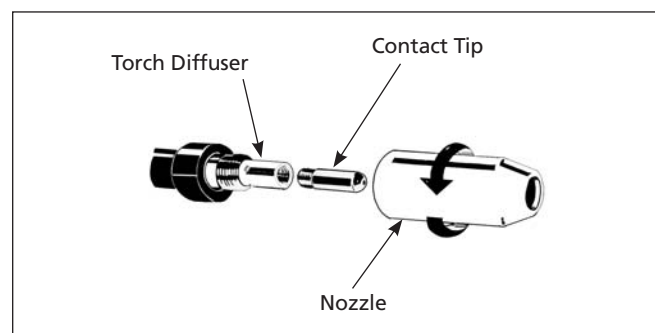

Figure 3 - Torch needle
- b. Wire matches contact tip in end of torch (See Figure 3).
7. Unscrew nozzle and contact tip from end of welding torch (See Figure 3). Plug welder into a proper power supply receptacle.
9. Carefully slip contact tip over wire, screw tip into torch end and reinstall nozzle (See Figure 3). Cut wire off approximately 1/4 inch from nozzle end.